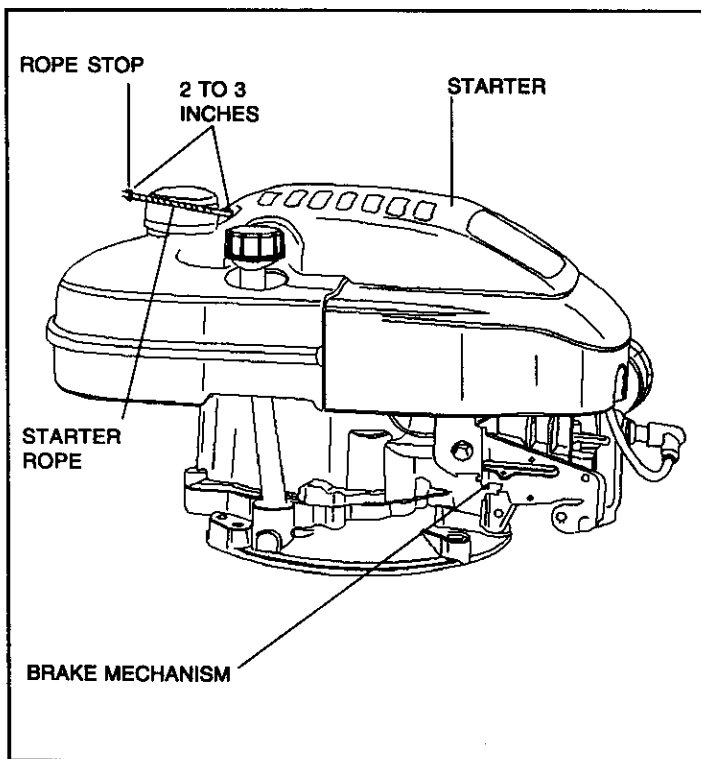
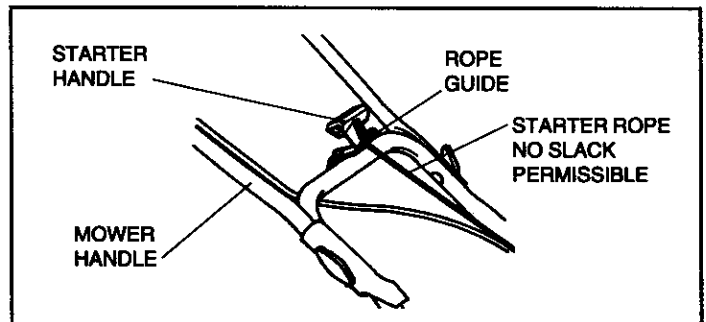

Figure 2
Figure 3
② INSTALL STARTER ROPE:
- B. Slide rope stop (see Figure 2) onto starter rope and feed starter rope through rope guide on mower handle (see Figure 3).
- D. With starter handle resting on rope guide (see Figure 3), check starter rope for slack. If there is any slack, pull more starter rope through starter handle and relocate left hand knot to eliminate slack.
- G. Position rope stop 2 to 3 inches from starter (see Figure 2) and fasten it to starter rope by gripping it with pliers and forcing staple through starter rope until staple is even with outside of rope stop.
③ CHECK OIL LEVEL:
B. Grasp starter handle (see Figure 3) and pull rope out, slowly, until it pulls slightly harder. Let rope rewind slowly. Then pull rope with a rapid full arm stroke. Let rope rewind **SLOWLY**. Do not let starter handle snap back against rope guide (see Figure 3).